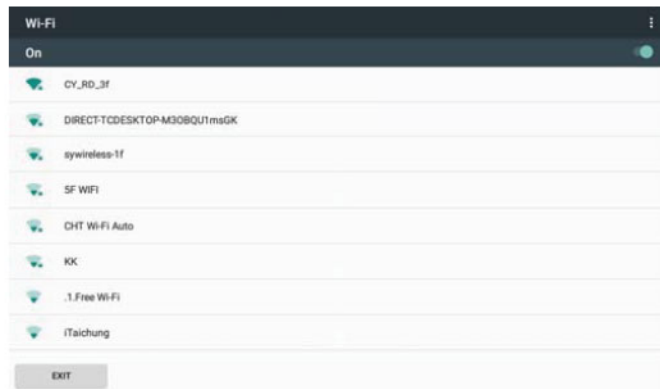

Fig.7 WiFi Selection (You can also turn on Wifi by)
2. Choose the available network you would like to connect to. Please check Figure 7 for demonstration.